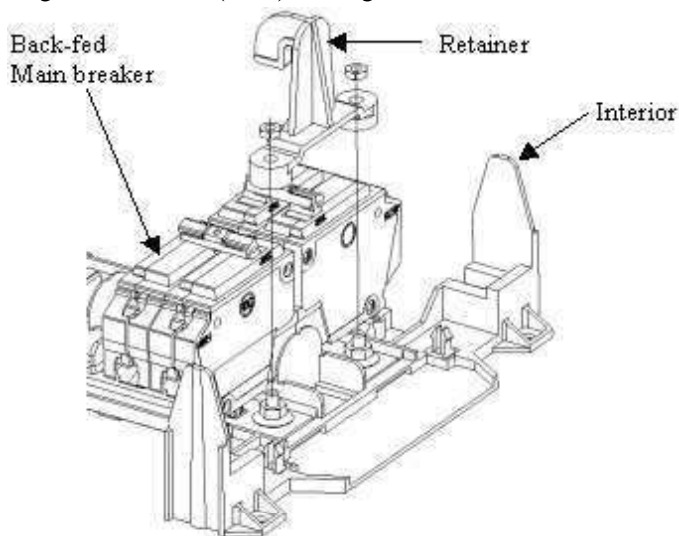

Fig 1
4. Install the retainer and secure with the 2 nuts provided with the kit. Tighten to 35 lb-in(4Nm). See figure 1.